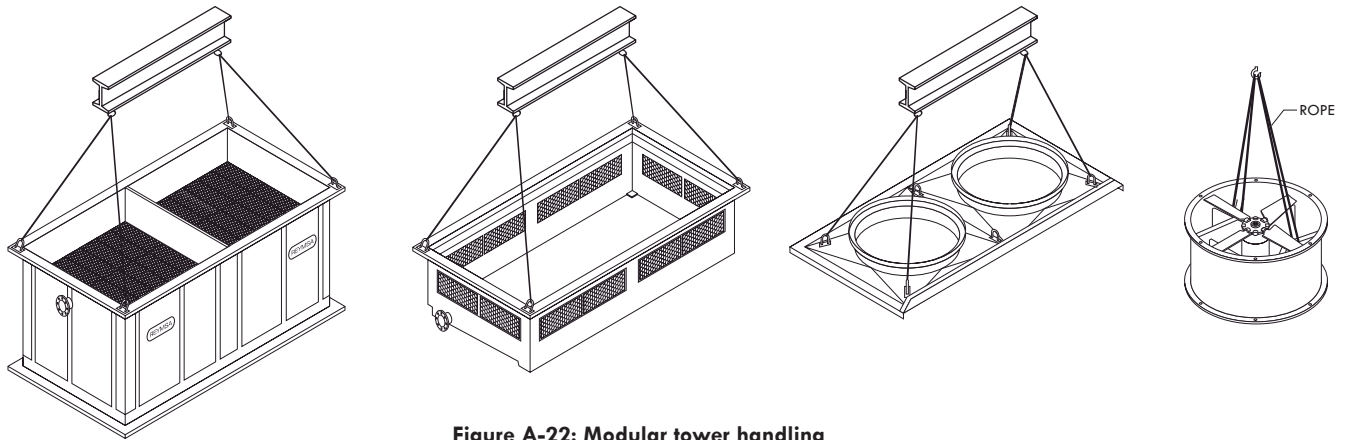

Figure A-22: Modular tower handling
- B. After assuring the equipment is received in proper conditions, proceed to unload it from the transportation vehicle, piece by piece, with a crane (using a spread bar) or forklift of the appropriate capacity, see Figure A-22 for an example.